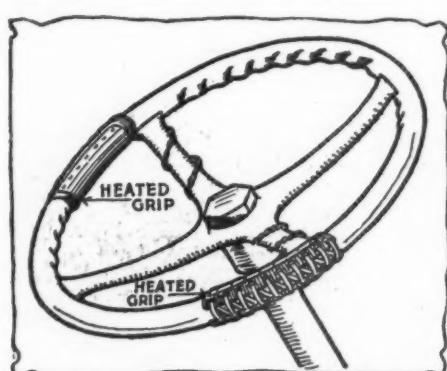

Fig. 7—Electrically heated grips for steering wheel made by the Motorist Warm Grip Co. for winter driving
**Motorists Warm Grips**—Electrically heated grips, Fig. 7, that may be quickly attached to any steering wheel are manufactured by the Motorist Warm Grip Co., Marshall, Tex. They are designed to wrap around the steering wheel rim and are held in place by lacings on the outer edges. Current is fed to them by small wires which run down the steering post to the source of supply which may be either a storage battery or lighting generator, or in the case of Ford cars, it is claimed by the makers some of the current generated by the flywheel magneto may be used without detriment to the ignition system. The price, complete, with the wire and switch is \$7.50.